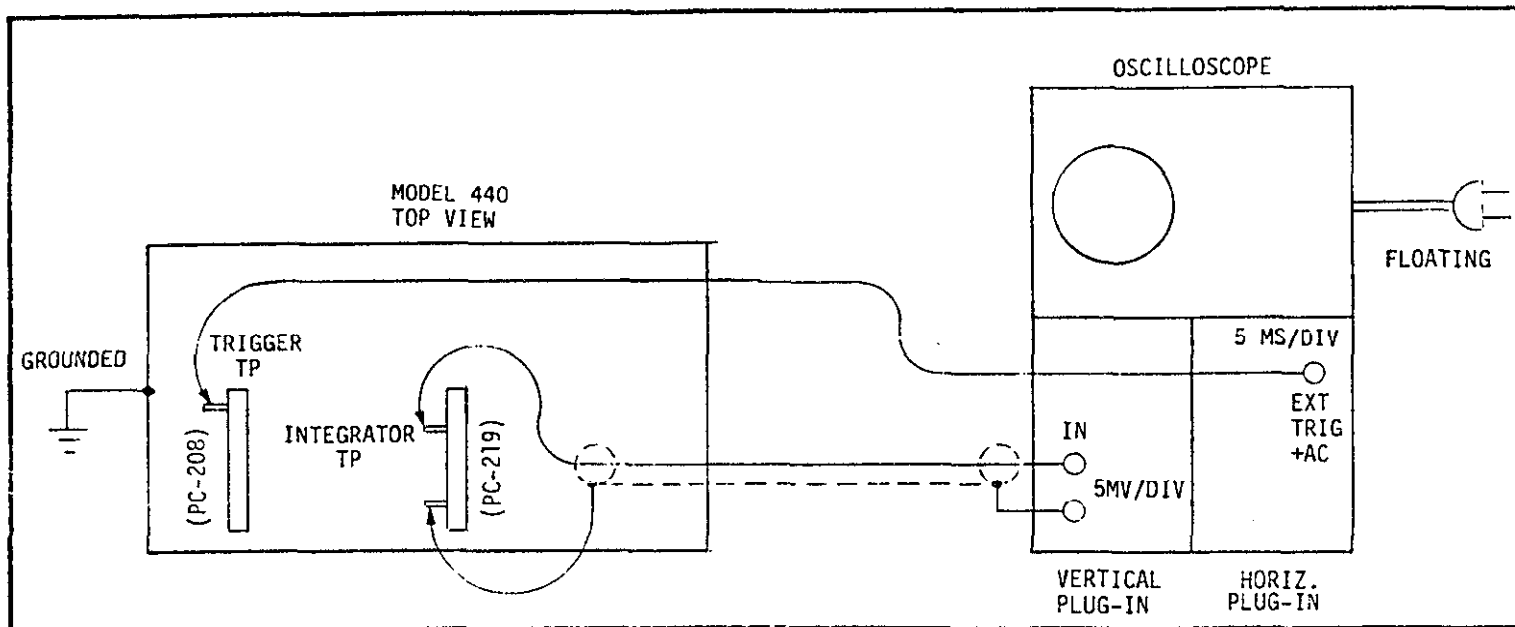

FIGURE 27. Test Equipment Set-up for A/D Calibration.
2. Connect Oscilloscope as shown in Figure 27.